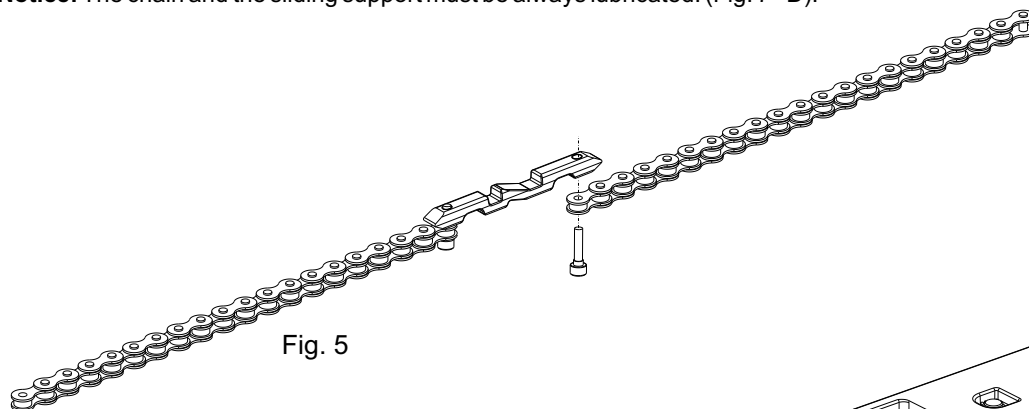

Fig. 5
- Put the two extremities of the chain together using the link and two provided screws as in Fig.5.